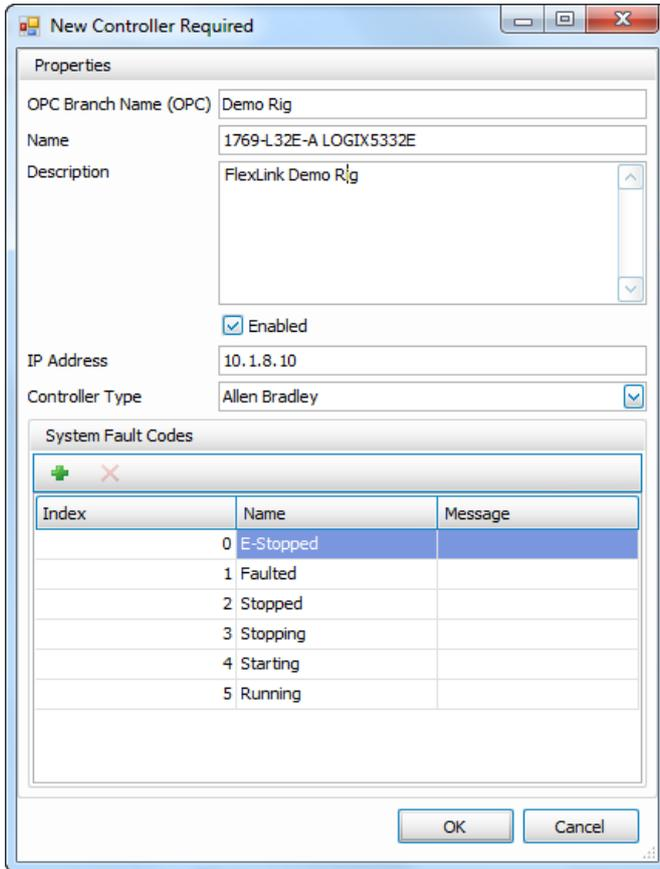

Figure 71
- **Name:** Name of the OPC PLC Server (Copied from the Matrikon Configuration, note setting in Figure 71 above).